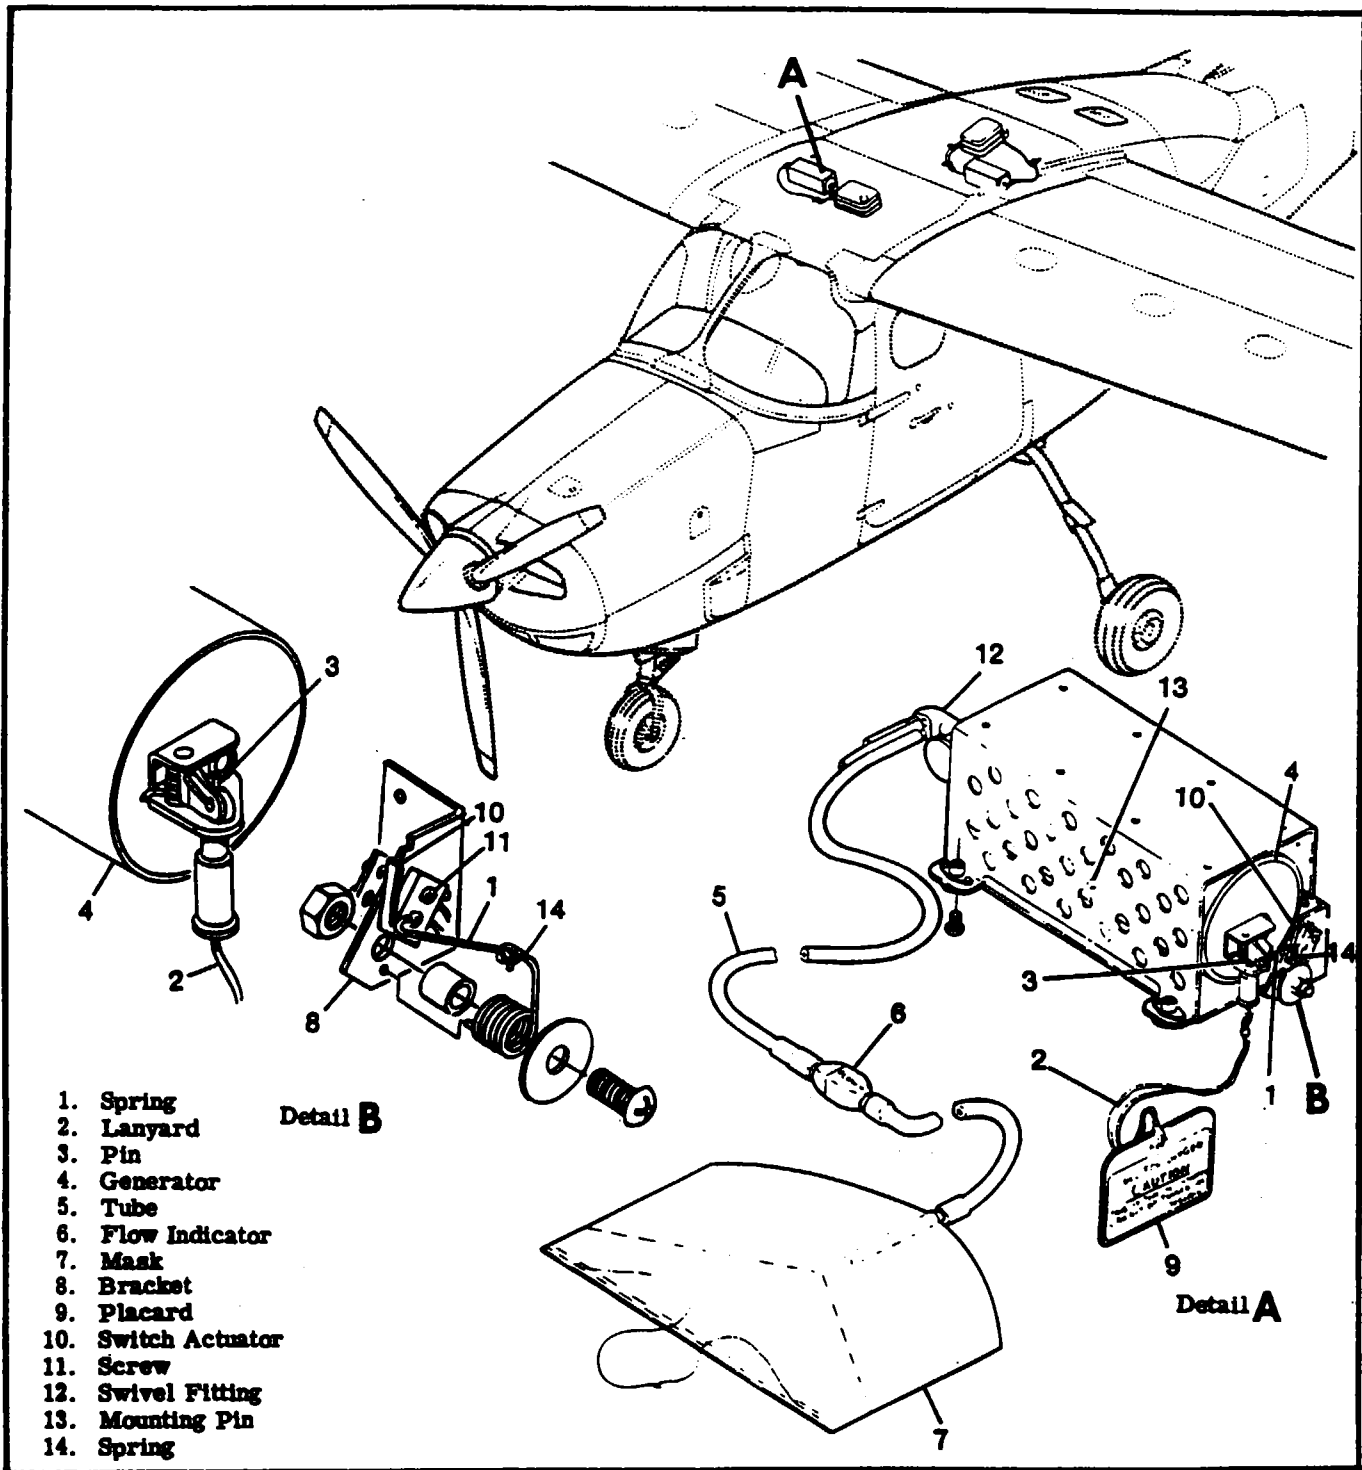

Figure 15-14. Emergency Oxygen System.
**15-91. REMOVAL OF OXYGEN GENERATORS AND MASKS.** (See figure 15-14.)
**15-92. INSTALLATION OF OXYGEN GENERATORS AND MASKS.** (See figure 15-14.)
c. Set spring-loaded ignitor firing mechanism to loaded position and connect indicator light mechanism. (Refer to figure 15-14 and paragraph 15-93.)
## 15-93. OXYGEN SYSTEM INDICATOR LIGHT SWITCH ADJUSTMENT. (See figure 15-14.)